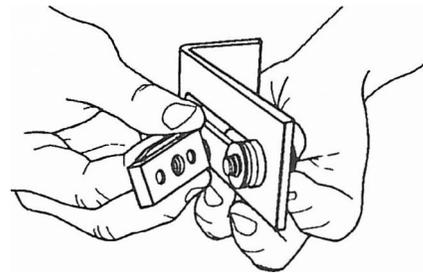

Fig. A-29
**22.** Place a regular-size flat washer (24) on cap screw (23), and insert the screw through the slot in a bracket (29). Then place two thick washers (25) on the screw and a thread it into the center hole of a T-nut (26), as shown in Fig. A-29.